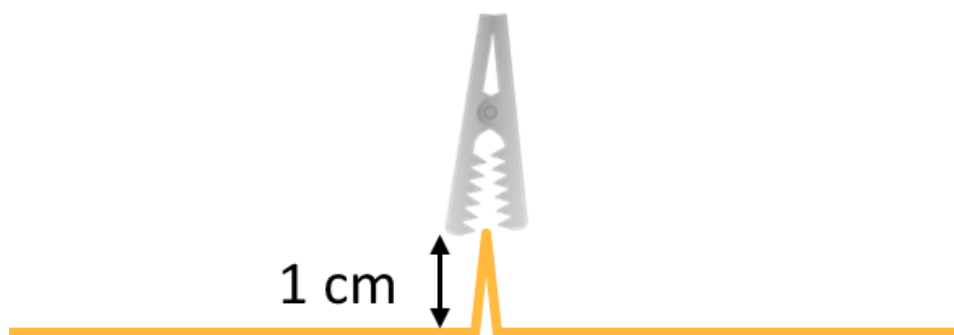

Fig. 5: Conductive tape with tab for alligator clip contact.
2. In the center of each strip of conductive tape, fold an approximately 1 cm fold near the center of each strip of tape to act as a tab for alligator clips to connect with (see Fig. 5). The fold in the center should be 1 cm on each side, using 2 cm of the 12 cm length.